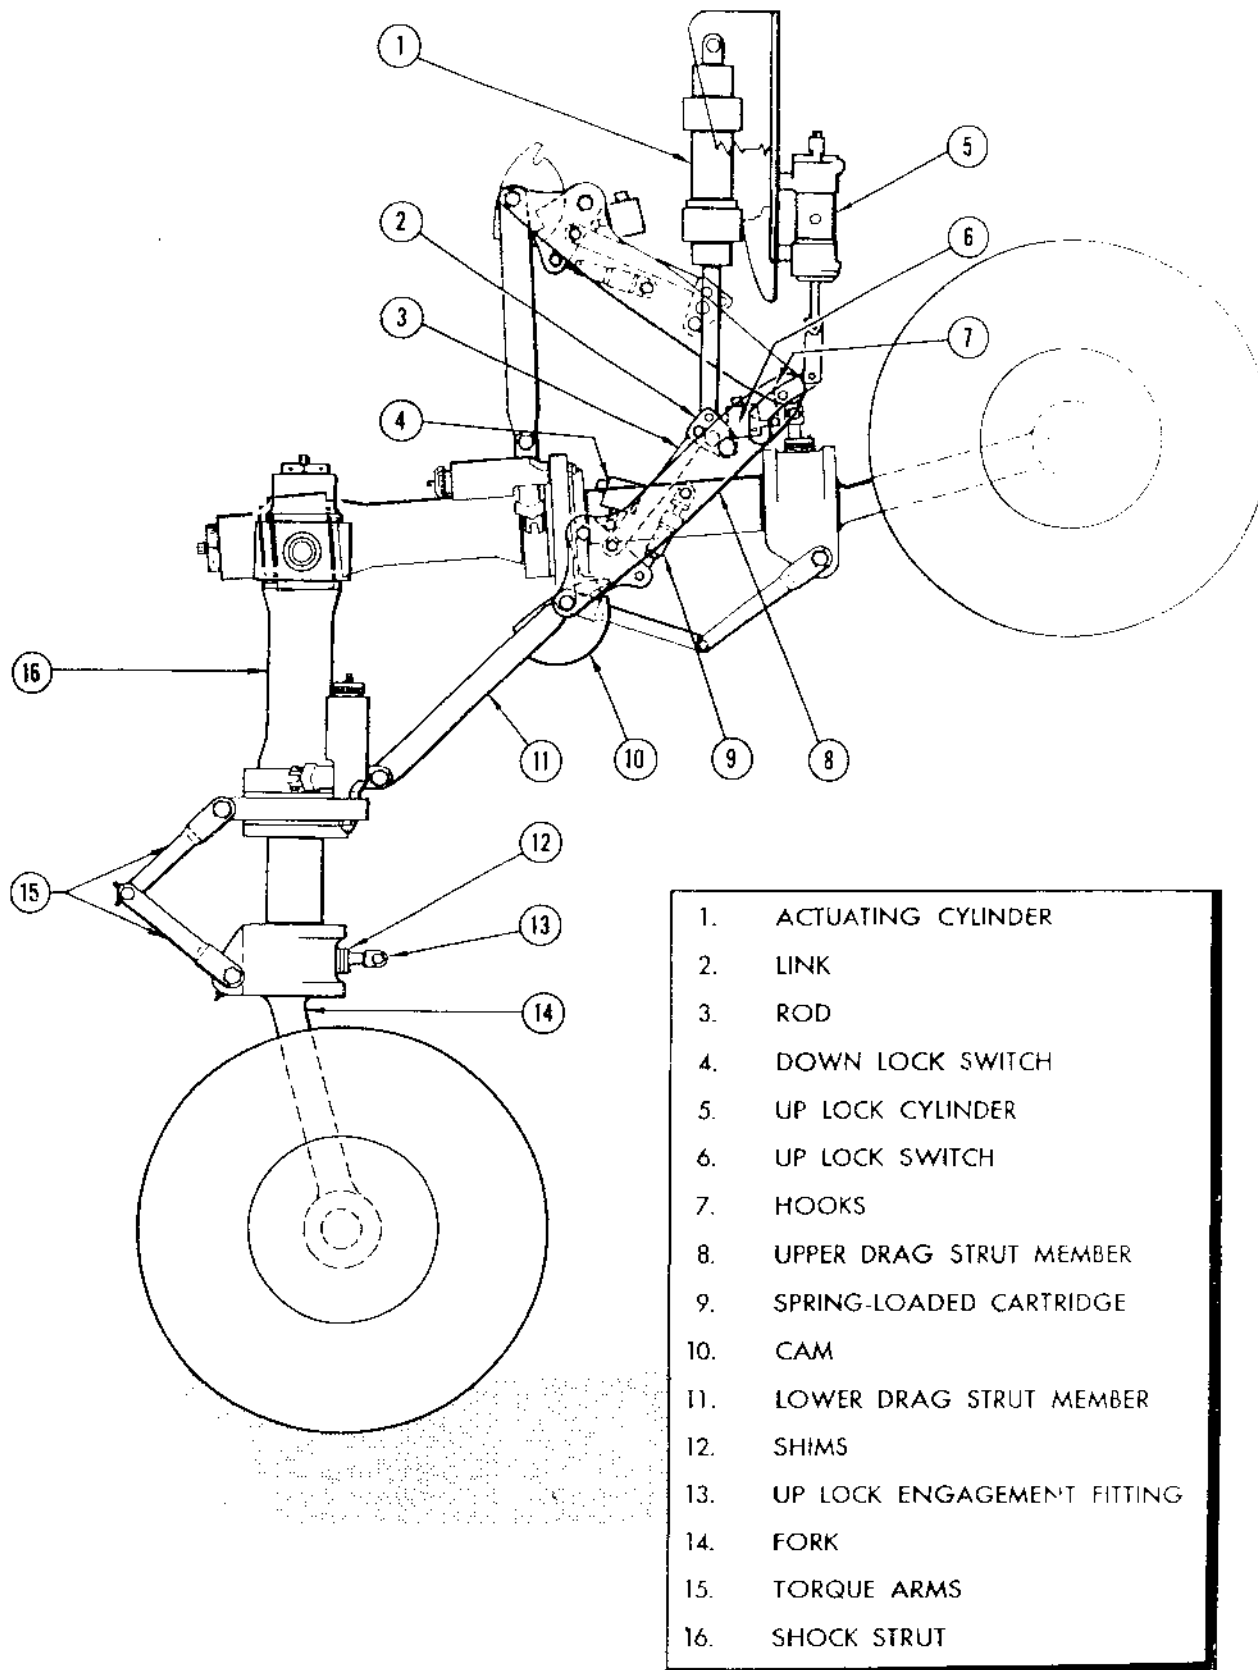

Figure 71 — Nose Aligning Gear
(See figures 71 and 72.)
(6) ADJUSTMENTS. (See figures 71 and 76.)—